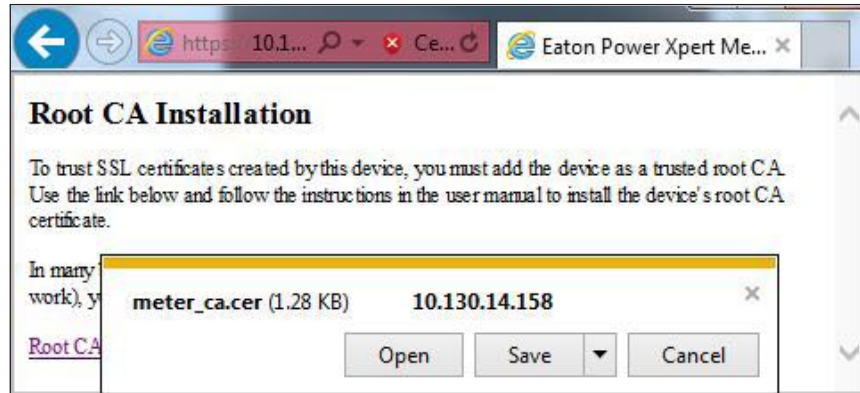

Figure 2: File Download Dialog Box.
3. Click the Open button (see Figure 2).